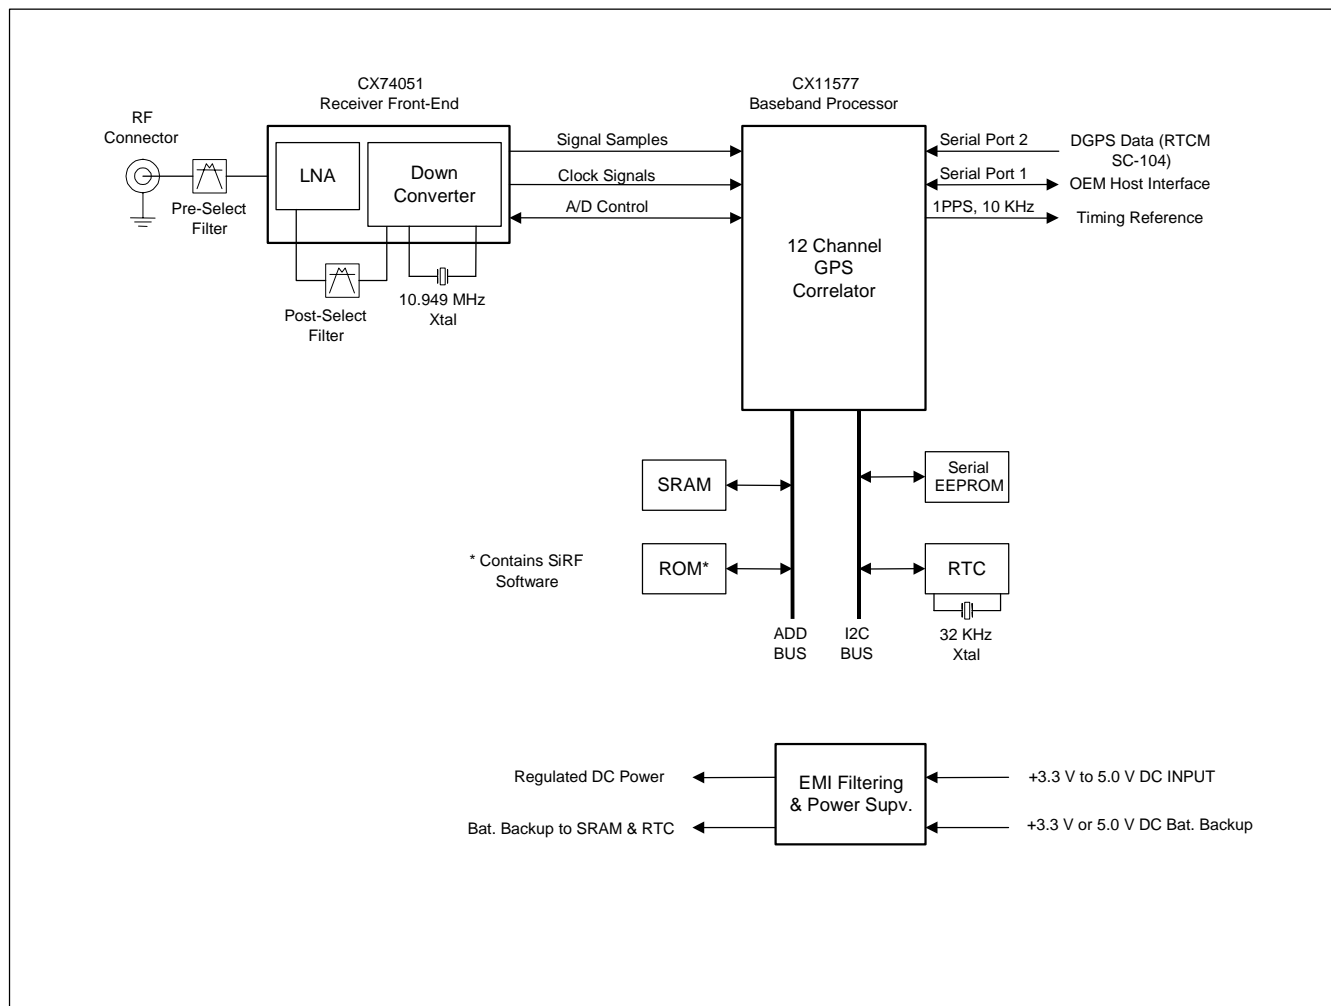
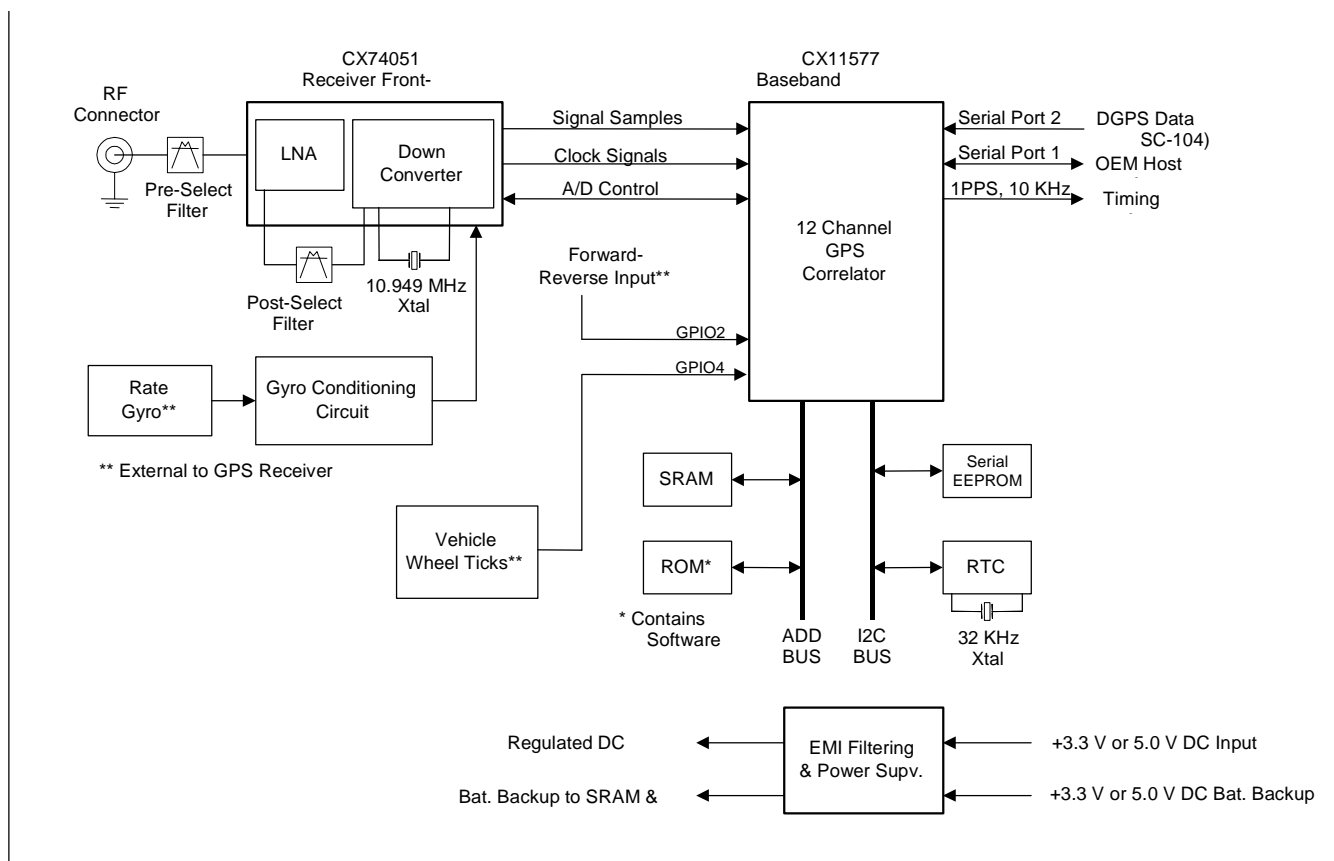

Figure 3. Jupiter 12 Block Diagram
Figure 4. Jupiter 12 Block Diagram With Dead Reckoning
Receiver Architecture. The functional architecture of the basic Jupiter 12 receiver is shown in Figure 3. Figure 4 shows the Jupiter 12 with dead-reckoning circuitry. The receiver design is based on the SiRF Zodiac chipset: the RF1A and the Scorpio Baseband Processor (BP). The RF1A contains all the RF down-conversion and amplification circuitry, and presents the In-Phase (I) and Quadrature-Phase (Q) Intermediate Frequency (IF) sampled data to the BP. The BP contains an integral microprocessor and the required GPS-specific signal processing hardware. Memory and other external supporting components complete the receiver navigation system.